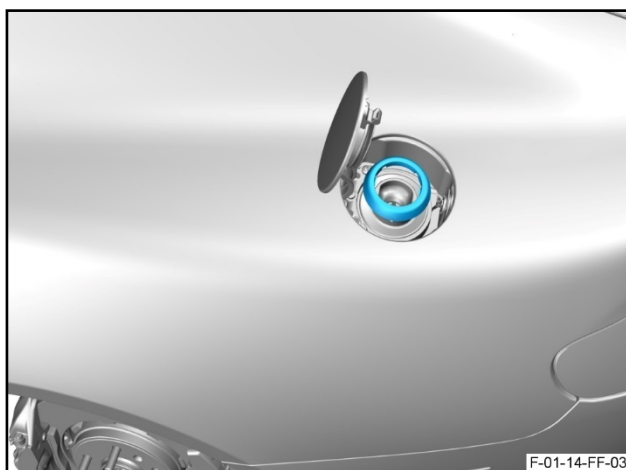

Figure 3
8. Remove the fuel filler bezel (refer to Figure 3)